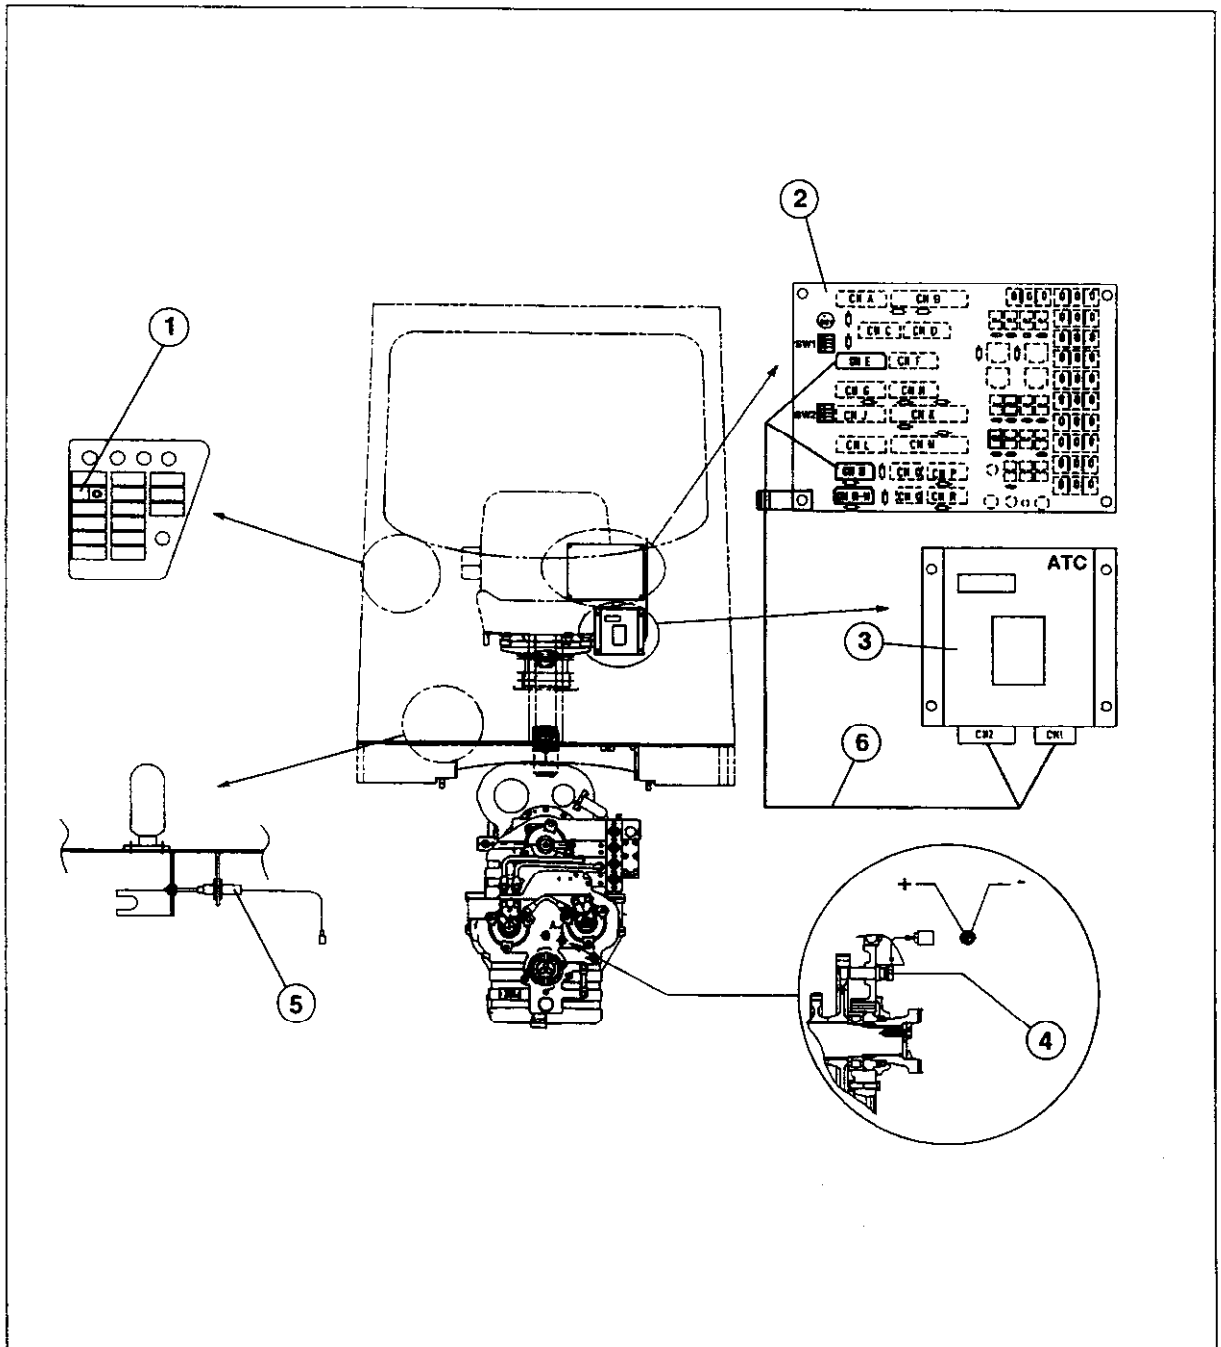

Fig. 2-40 Automatic transmission
- 6) Add wire 76042597 connected as in fig. 2-40.